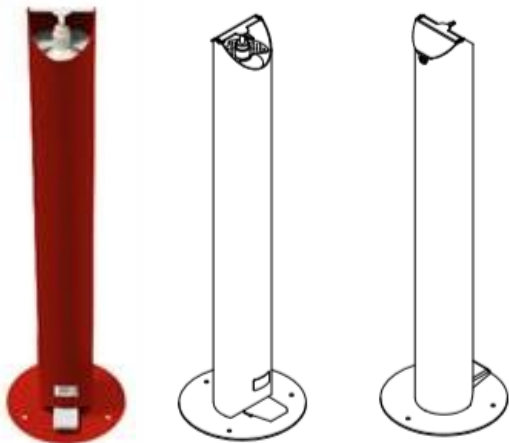

Fig. 1: Bottle replacement:
- Undo the fixing bolt of the lid with 4mm allen Key, remove lid of dispenser and bottle as shown on fig.1